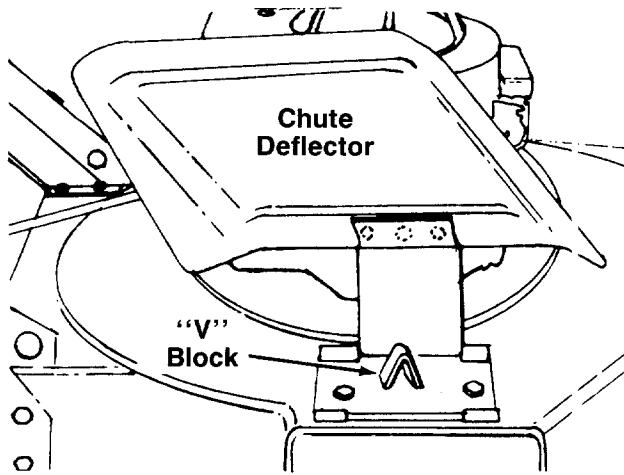

FIGURE 9.
1. The chute deflector on your mower is held in an upright position by a "V" block for shipping purposes only. This "V" block must be removed and discarded before the mower is put into operation. See figure 9.